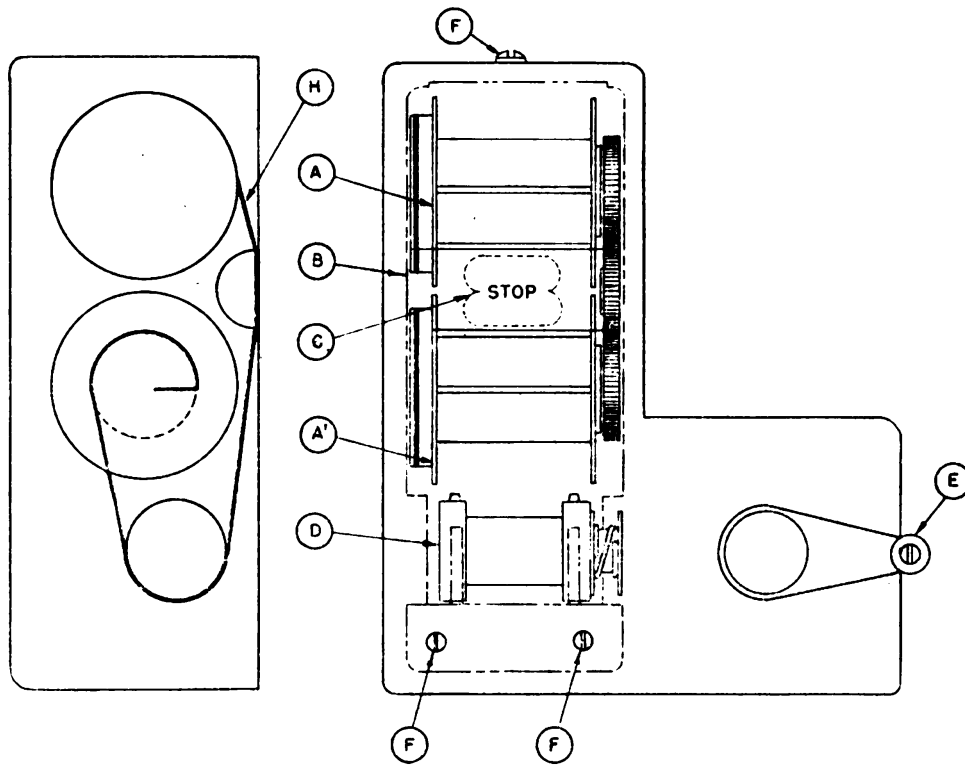
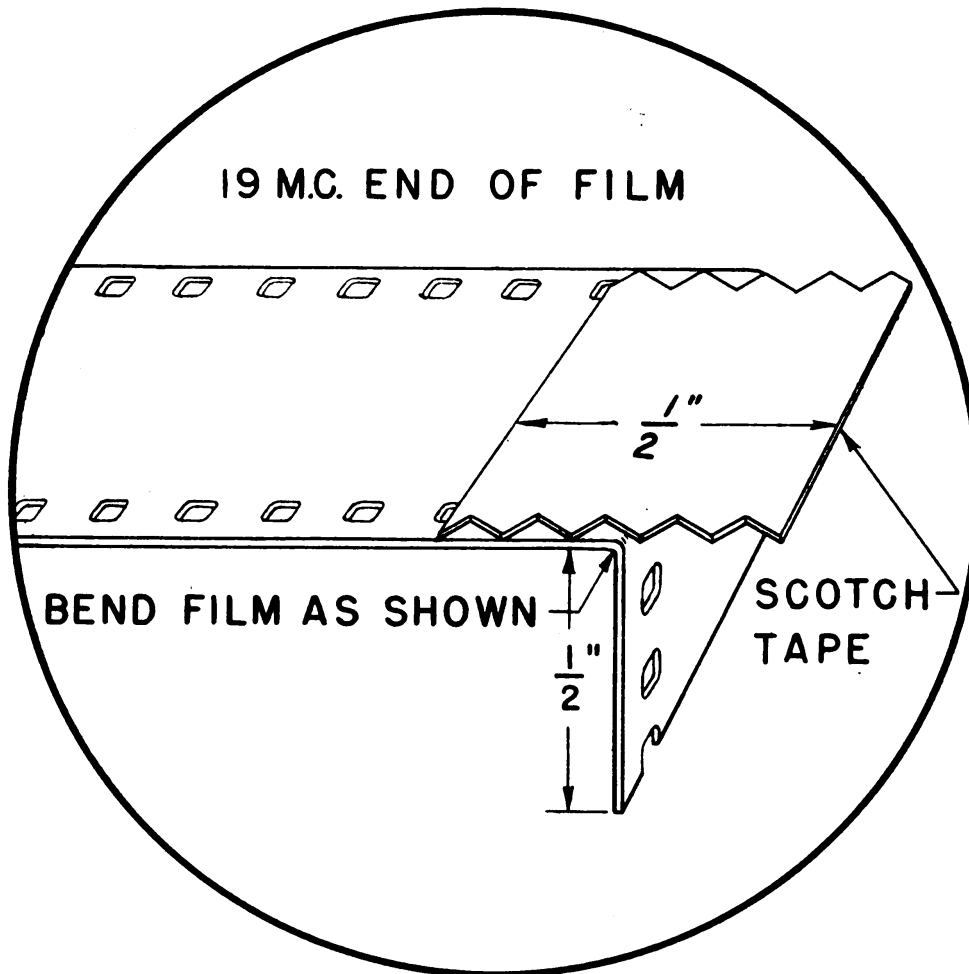

Figure 10—Dial mechanism
Figure 11—Dial film, preparation for installation
(1) Remove r-f unit as outlined in sub-paragraph 14c.
(2) Remove three screws F (figure 10) and pull out film coverplate.
(3) Remove old film, including any scotch tape used to fasten film to spool.
(4) Turn crank E (figure 10) to the left until the word STOP is reached.
(5) Remove spare film from round can on tuning capacitor shield and check leader length. There should be 10 inches of blank film on each end of the dial as measured from the word START on the high frequency end, and STOP on the low end. If there is more than 10 inches, cut it off.
(6) Make a sharp right angle bend in the low frequency (19mc) end of the film and attach a piece of scotch tape as shown in figure 11.
(7) Insert low frequency end of film in slot in lower spool, fasten with scotch tape, and wind the film on the spool.
(8) Thread the film around the sprocket as shown in figure 10 placing the word STOP at the center of the dial. Make sure the crank E is turned against the stop.
(9) Prepare this end of dial by cutting to 10" from word STOP, bend, and use scotch tape (see figure 11).
(10) Double the film in a large loop and insert it between the sprocket and the end of case to prevent the film from slipping off the sprocket.
(11) Moving the thumbs alternately towards the sprocket, wind the lower spool to tighten the film, then, hold upper spool to prevent lower one from unwinding.
(12) When the lower spool is wound tight, again moving the thumbs in the same direction, wind the upper spool *exactly* 15 turns.
(13) Secure end of film in upper spool as described before. Allow spool to take up surplus film. It is important that the film be held firmly on the sprocket and that the crank is
(14) The film should now be on the spools and sprocket as shown in sketch H (figure 10).
(15) Replace film cover plate and hold in place without screws. Wind film to upper reel, rewind slowly to lower reel, and check STOP point. "STOP" should be in the center of the dial on one end and "START" at the other. Correct if necessary by shifting film on sprocket and fasten cover plate in place with three screws F (figure 10).
(16) Make final check after cover has been replaced. If STOP point is not lined up properly, remove cover plate and advance film on drive sprocket teeth until proper alignment is reached.